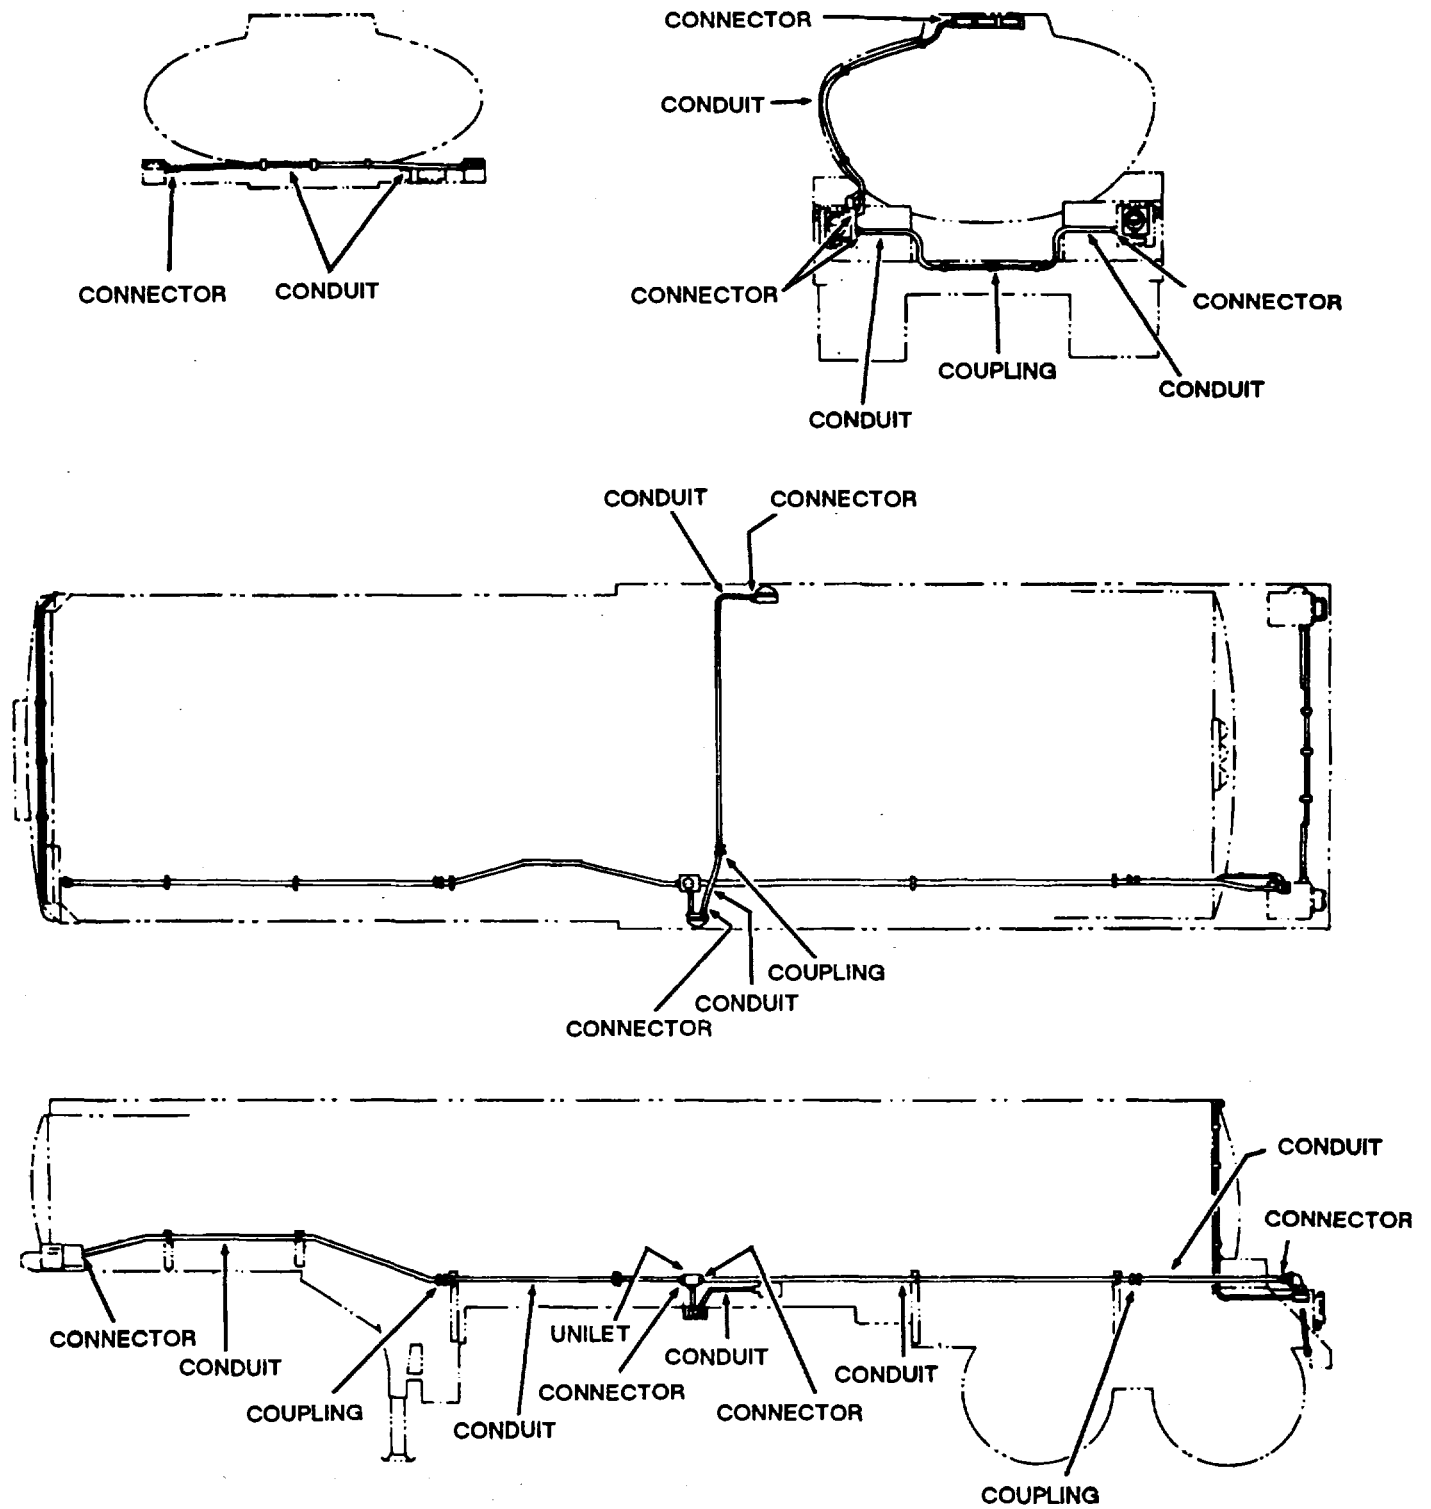

Figure 4-11. Chassis Wiring Conduit Installation
a. *Removal.* A wiring conduit should only be removed when repairs are warranted. Remove wiring harness and electrical leads as needed, para 4-10. Use a reference when removing conduit, fig. 4-11. Where conduit passes under clips, bend these clips back far enough to remove conduit, but do not break clips off. Should enough of these clips break off to hamper installation of conduit, contact direct support maintenance to weld on new clips.